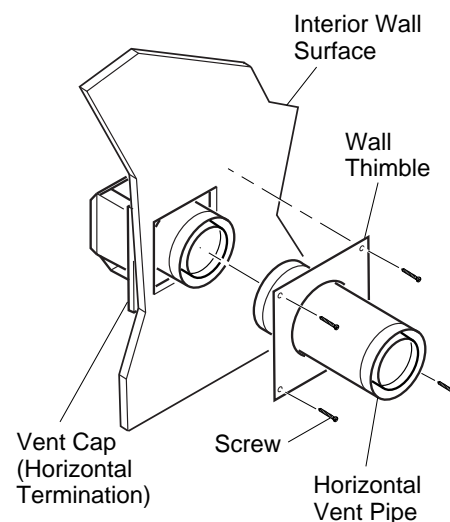

Figure 20 - Connecting Vent Cap with Horizontal Vent Pipe
5. Slide the wall thimble over the vent pipe before connecting the horizontal run to the vent cap (see Figure 20).
7. Slide the wall thimble against the interior wall surface and attach with screws provided (see Figure 20).